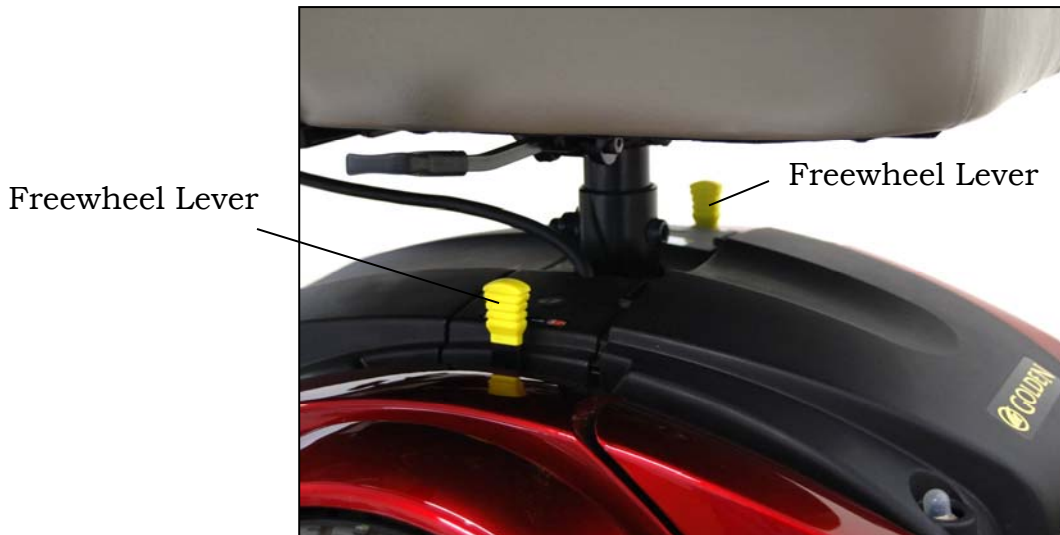

Figure 21
- ◆ To disengage the gears and put your power chair in freewheel mode, pull the freewheel levers forward towards the front of your chair. See figure 21.
- ◆ To re-engage the gears and take your chair out of freewheel mode, push the levers back towards the rear of your chair. See figure 21.